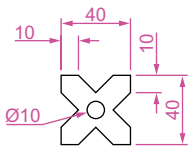

Fig. 5.15 First example – Array – drawing to be arrayed
1. Construct the drawing Fig. 5.15.